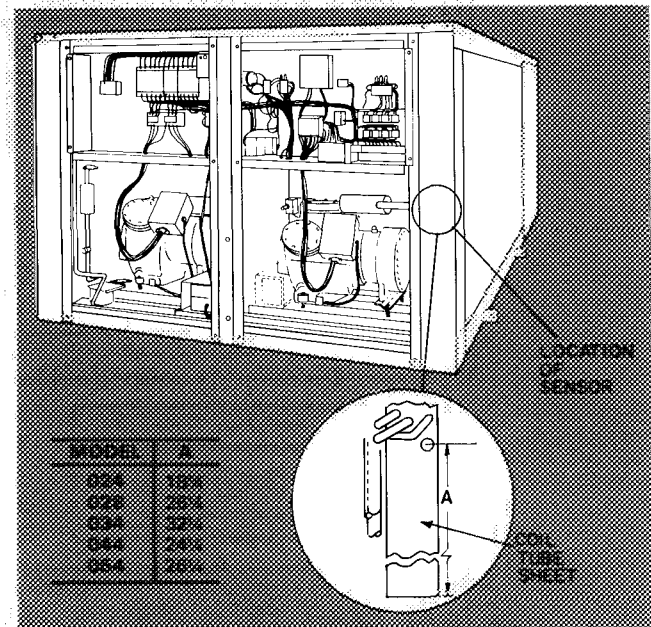

Fig. 17 — Motormaster Control Sensor Location
6. **Locate Motormaster Control Sensor** as shown in Fig. 17. Route sensor wire from bottom of Motormaster control to bottom of control box, thru a connector in the bottom of the control box and across the partition to the specified sensor location. Connector is field supplied. If necessary, drill hole in control box for connector.